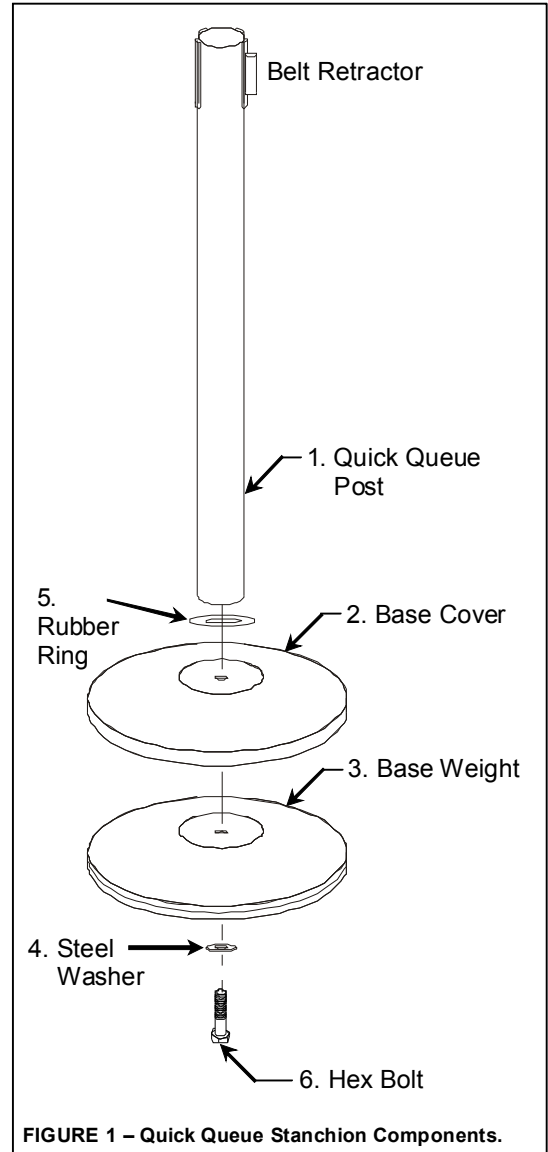

FIGURE 1 – Quick Queue Stanchion Components.
2. Assemble the unit by fully inserting the Hex Bolt through the Steel Washer, Base Weight, Base Cover, Rubber Ring and Post as shown in FIGURE 1.